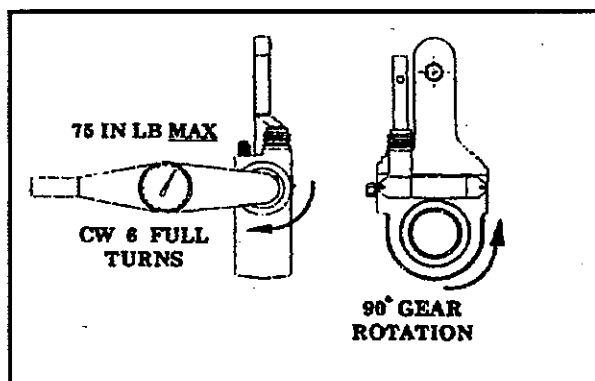

Figure 30—Rotate Hex Nut
13. Rotate adjusting hex nut for six full revolutions. Front torque will increase to a peak value then return to zero several times on each revolution. (See Figure 30—Rotate Hex Nut.)
14. Torque front clock wise to less than 75 inch-pounds (8.5 N•m). (See Figure 30—Rotate Hex Nut.)